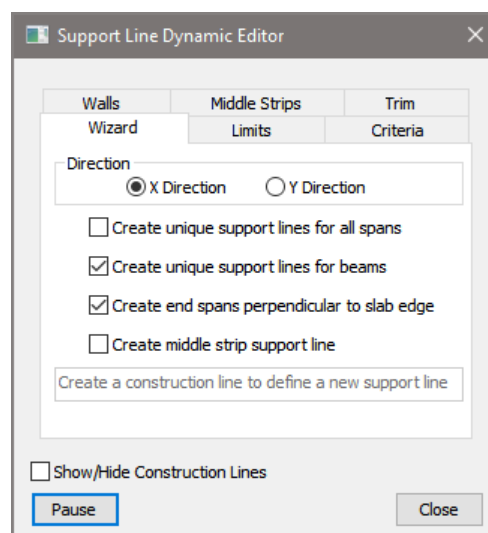

Figure 6-3
- Go to *Floor Design* → *Strip Modeling* and click on the *Dynamic Editor*  icon. This will open the *Support Line Dynamic Editor* dialog window as shown in **FIGURE 6-3**. For this example, we will create support lines using the default settings from this window.